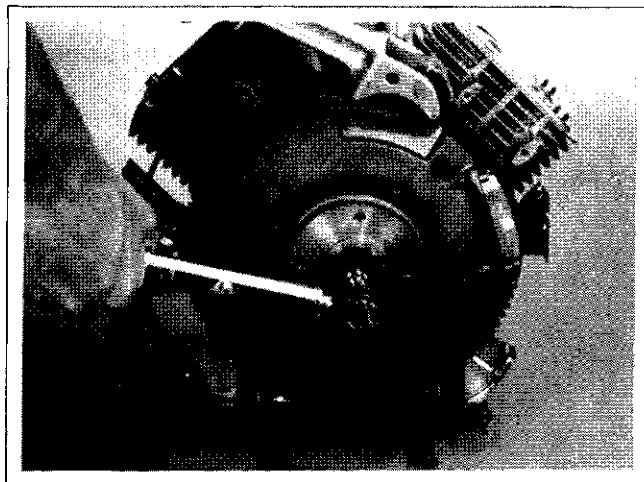

Figure 11-26. Hold Flywheel with a Strap Wrench While Torquing Fastener.
4. Use a flywheel strap wrench or holding tool to hold the flywheel and torque the hex. flange screw securing the flywheel to the crankshaft to **66.4 N·m (49 ft. lb.)**. See Figure 11-26.